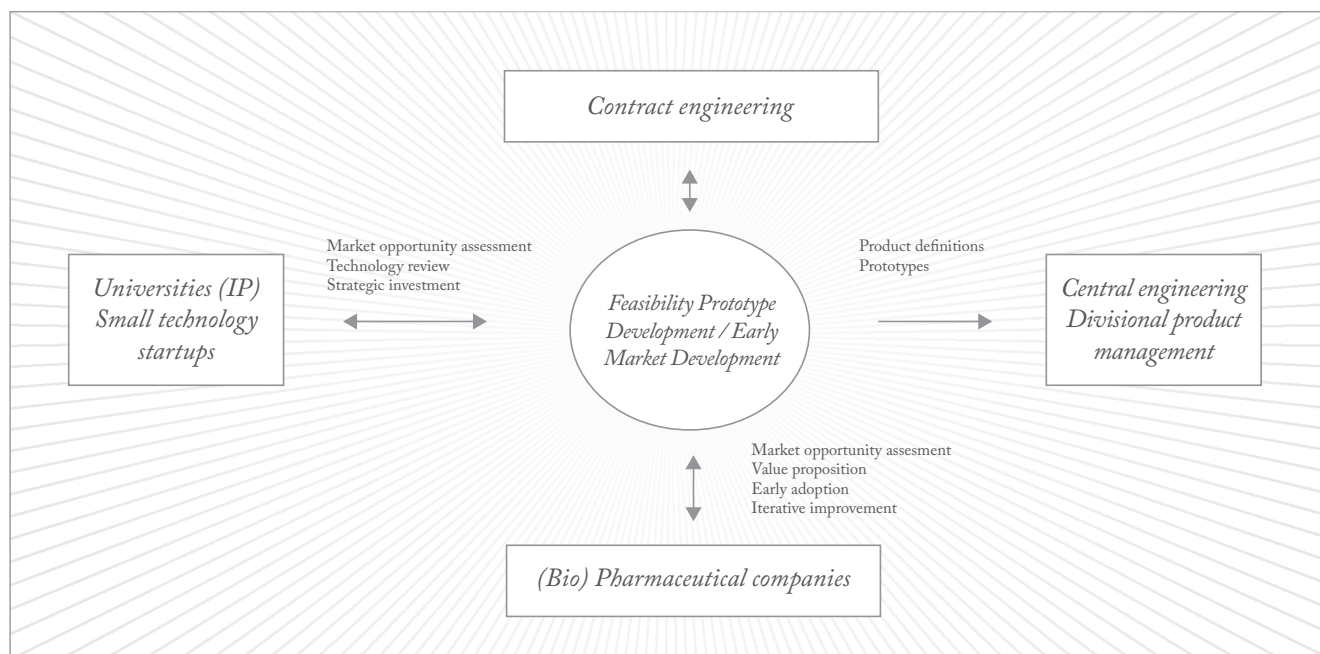

Fig 2: The BDI workflow
The structure of our workflow is illustrated in figure 2. It places BDI at the center; this includes people such as project managers and high level scientists. To the left sit universities, intellectual property (IP) and small technology start-ups. We in BDI are constantly assessing the opportunities that these sources present and we can invest in promising technologies to bring them to market more quickly. However, the really unique aspect of the approach is that we take some of these embryonic ideas – ones that may not be quite ready for 'prime time' as fully fledged products but are far too interesting to ignore – and push them straight into biopharmaceutical companies. What we are looking for from biopharma is quick, iterative learning.